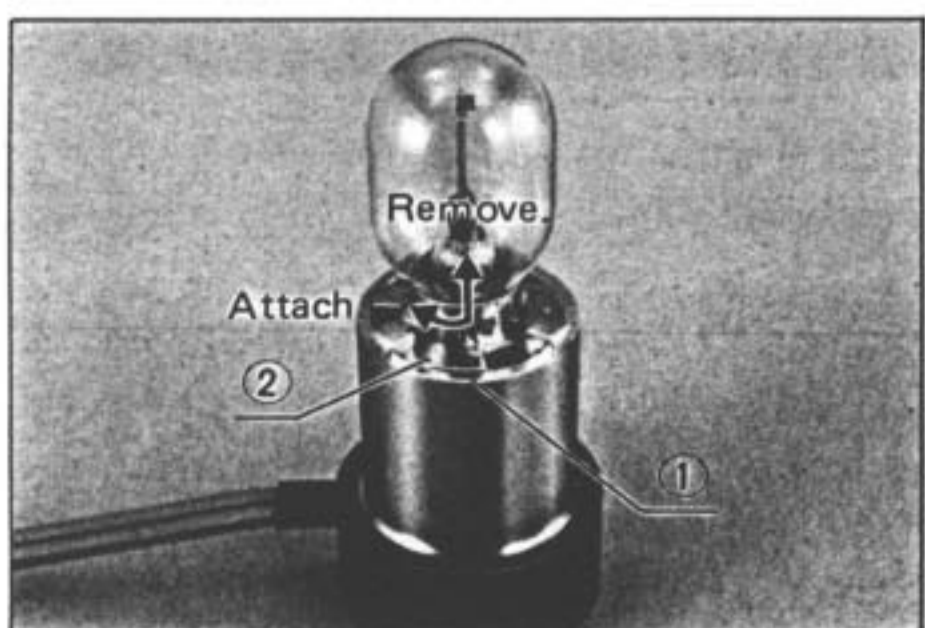

Fig. 9
- 2) Remove the defective bulb by slightly depressing it against the seat and rotating counterclockwise. (Fig. 9)
- 3) Insert the replacement bulb in reversed order and rotate the bulb clockwise all the way, until the red dots ① & ② are aligned with each other. (Fig. 9)